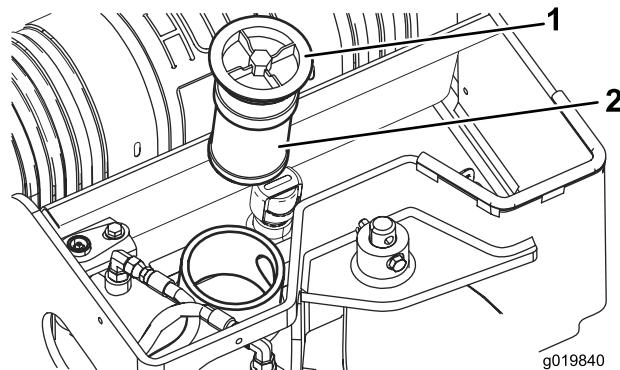

Figure 60
5. Remove and discard the old filter (Figure 60).
6. Install the replacement hydraulic filter and filler cap (Figure 60) and torque bolt on top to 21 to 25 N·m (200 to 240 inch-lb).
6. Remove the hydraulic tank filler cap and filter (Figure 60).
11. Install the hydraulic filter and filler cap (Figure 60) and torque bolt on top to 21 to 25 N·m (200 to 240 inch-lb).